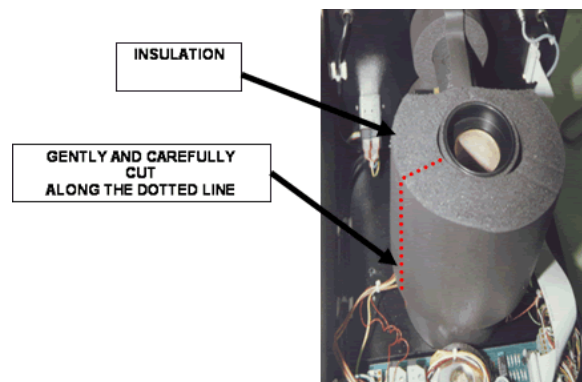

Figure 19: Insulation
5. Carefully, cut the insulation on the back of the bath along the red dotted line in Figure 19 above.